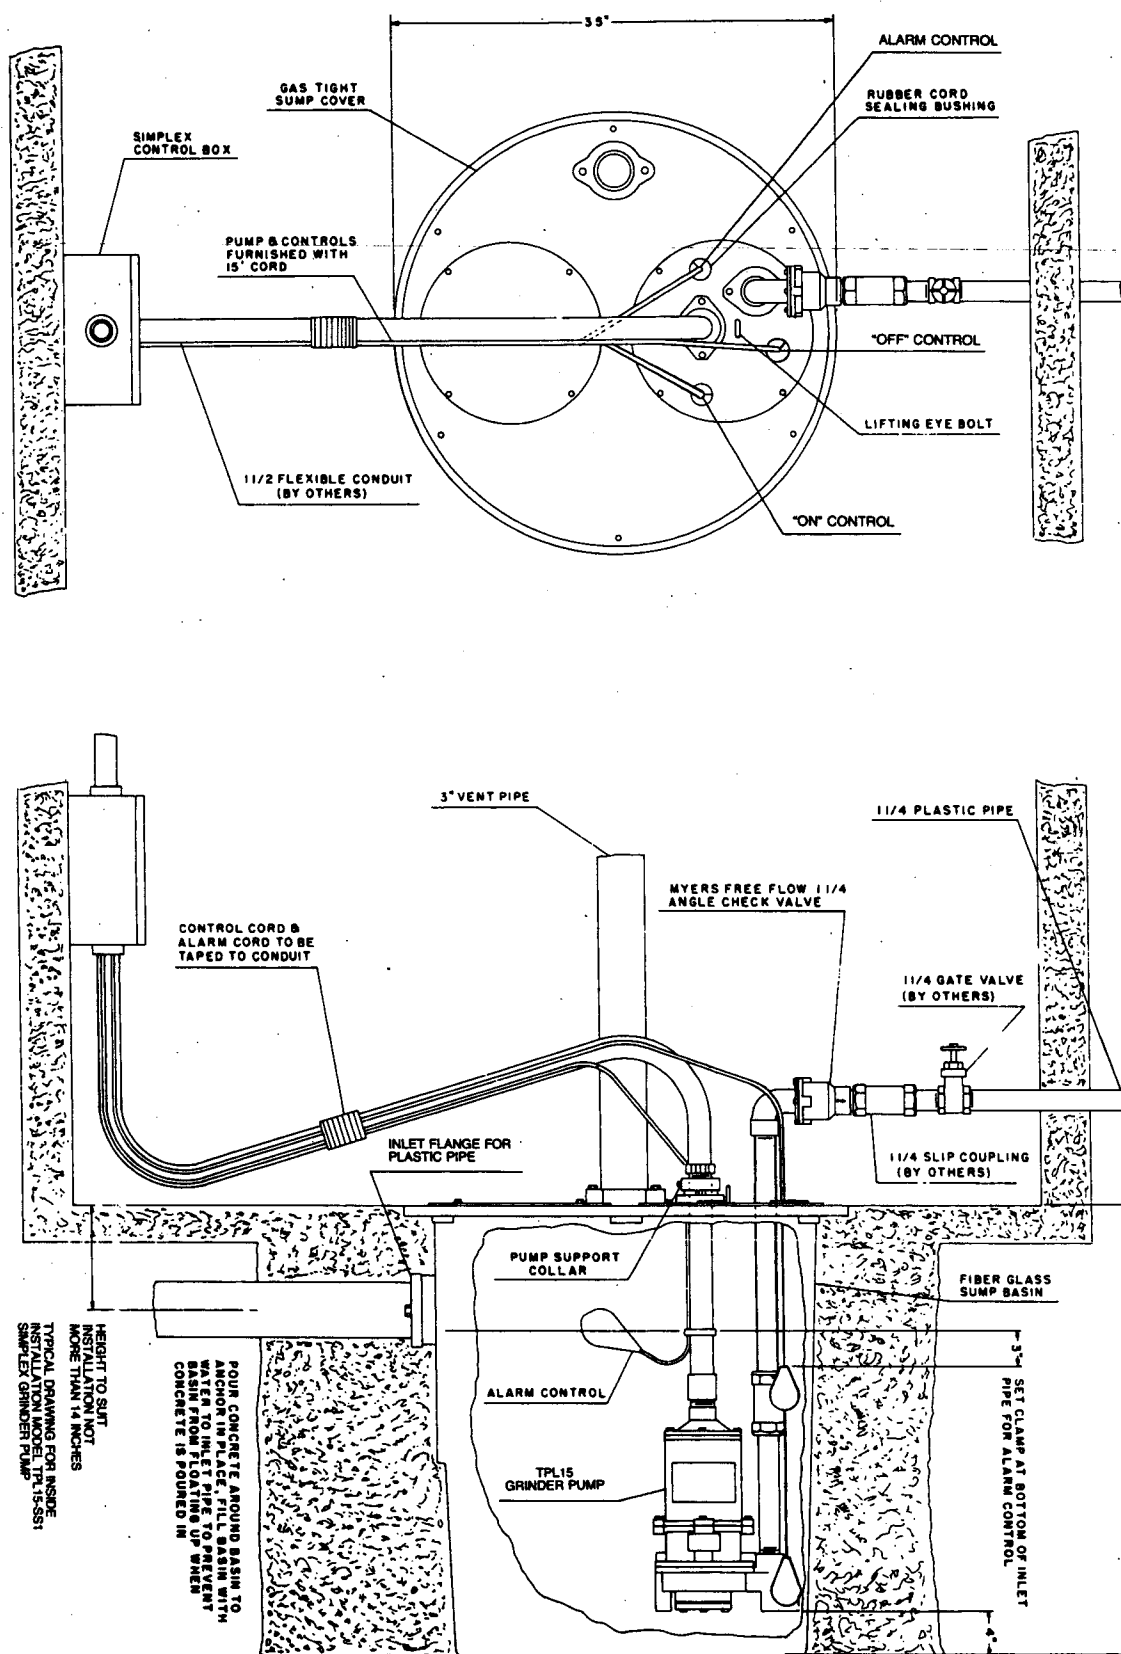

FIG. 2
3. Basin is now ready to set in ground. Pour cement around basin and up to basin flange, to make a neat job and to anchor basin in the ground. See Figure 2.
Figure 2 shows a typical installation including discharge piping.
12. The motor cords can be installed in flexible conduit if desired, as shown on drawing Figure 2, or can be left open and taped together.